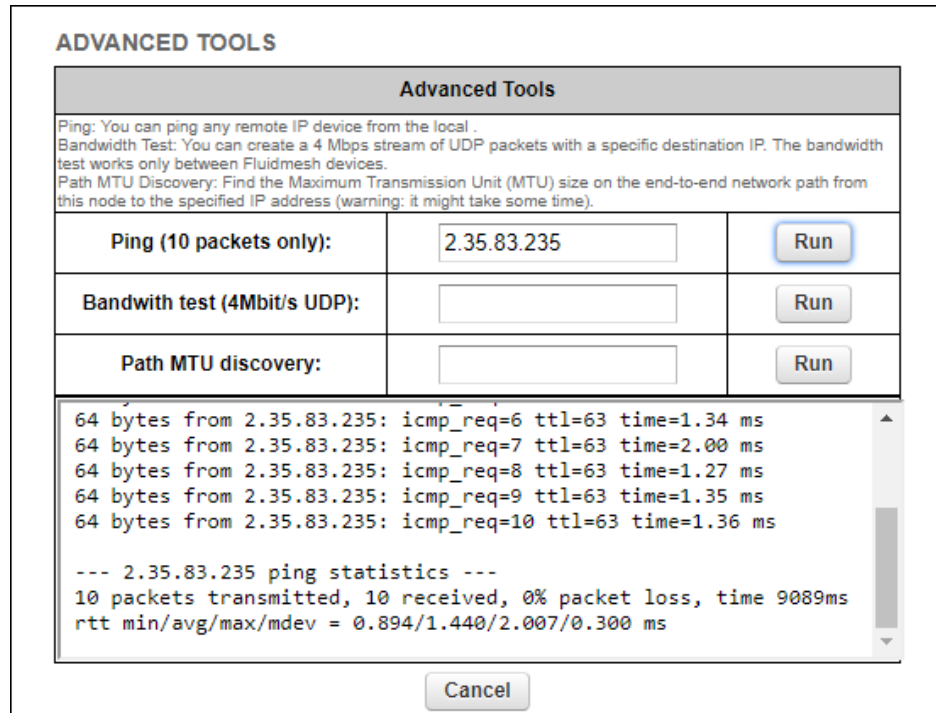

Figure 24. Advanced Tools window (Ping test tool)
2. Enter the IP address of the other unit in the **Ping (10 packets only)** field (Figure 24 (page 68)).